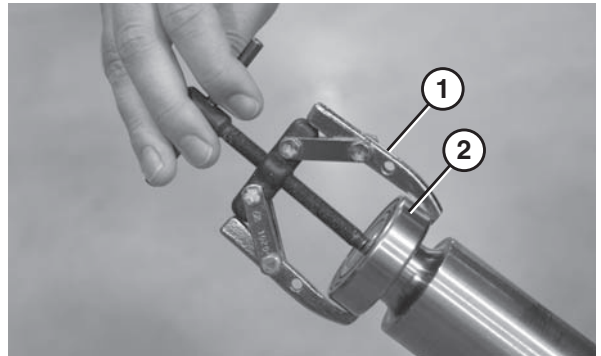

Figure 95
2. Using a bearing removal tool (**Figure 95, item 1**), remove the bearing (**Figure 95, item 2**).